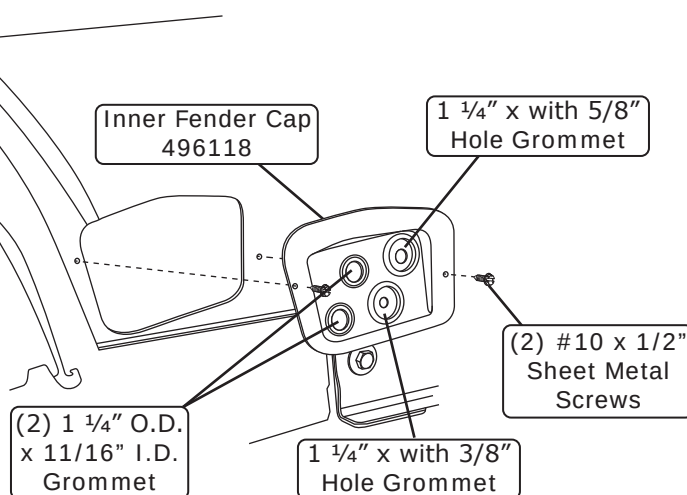
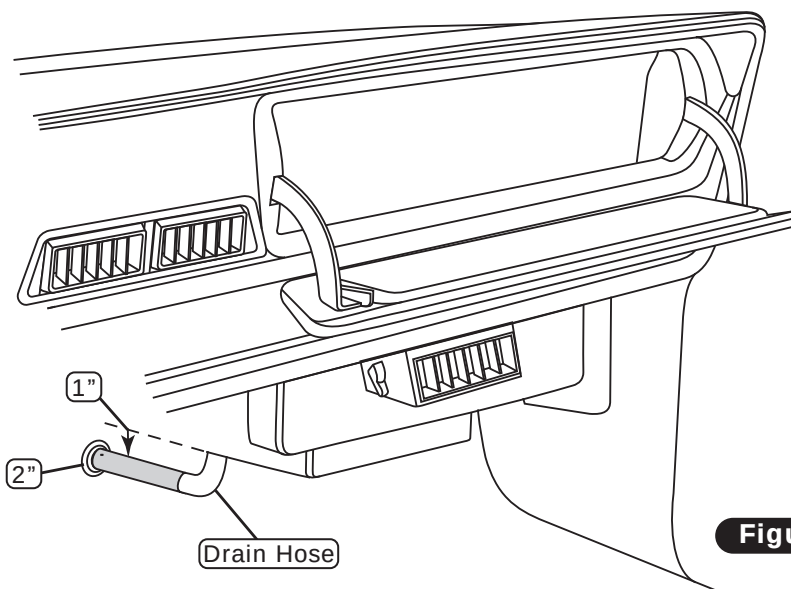

Figure 1a
Figure 1
2. Install (4) grommets in the inner fender cap (See Figure 1a, below).
3. Install the inner fender cap in wheel well side using (2) #10 x 1/2" sheet metal screws as shown in Figure 1a, below.
1. Locate the #8 compressor A/C hose. Lubricate (2) #8 O-rings (See Lubricating O-rings, Page 11), and connect the 90° female fitting to the #8 discharge port on the compressor. Then route the straight female fitting with R134a service port to the #8 condenser hardline coming over the core support. Tighten each fitting connection.
2. Locate the #10 compressor A/C hose. Lubricate (2) #10 O-rings (See Lubricating O-rings, Page 11), and connect the 45° fitting to the #10 suction port on the compressor. Then route the 45° female fitting with R134a service port to the #10 hardline on the inner fender cap. Lubricate (2) #10 O-rings (See Lubricating O-rings, Page 11), and connect the 90° female fitting in the wheel well to the #10 hardline on the inner fender cap. Then route the straight female fitting from the inner fender cap to the #10 fitting on the evaporator (See Figure 1a, Page 13 and Figure 1, Page 16). Tighten each fitting connection.
3. Locate the #6 evaporator A/C hose. Lubricate (2) #6 O-rings (See Lubricating O-rings, Page 11), and connect the straight female fitting to the #6 hardline coming over the core support from the drier. Then route the straight female fitting to the #6 hardline on the inner fender cap. Lubricate (2) #6 O-rings (See Lubricating O-rings, Page 11), and connect the 90° female fitting in the wheel well to the #6 hardline on the inner fender cap. Then route the 90° female fitting from the inner fender cap to the #6 fitting on the evaporator (See Figure 1a, Page 13 and Figure 1, Page 16). Tighten each fitting connection.
3. In the wheel well, route a piece of heater hose from the top heater fitting on the inner fender cap to the top heater fitting of the heater core as shown in Figure 1a, Page 13, and Figure 1, below. Secure using hose clamps.
4. In the wheel well, route a piece of heater hose from the bottom heater fitting on the inner fender cap to the bottom heater fitting of the heater core as shown in Figure 1a, Page 13, and Figure 1, below. Secure using hose clamps. **NOTE: Install heater control valve in line with the intake manifold (pressure side) heater hose, and secure using hose clamps as shown in Figure 1, below. Also note proper flow direction.**